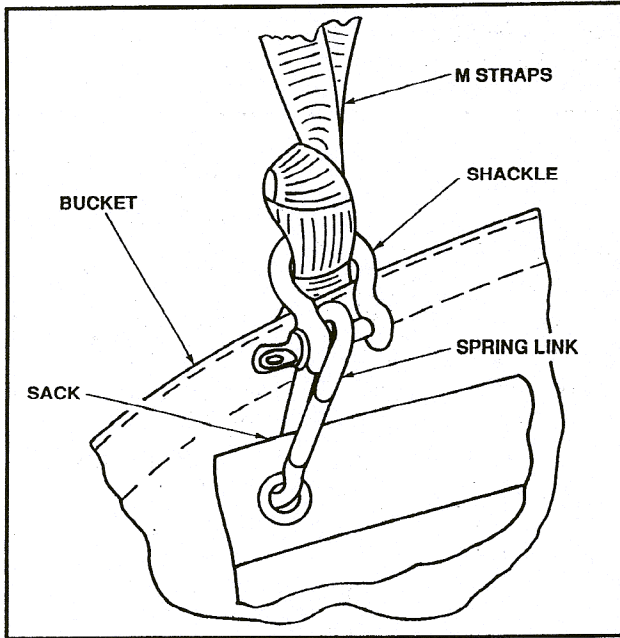

Fig. 5: Attaching the sack.
7. Install the shackles onto the webbing suspension straps at the bucket rim to line up with the spring links on the sack. See Fig. 5.